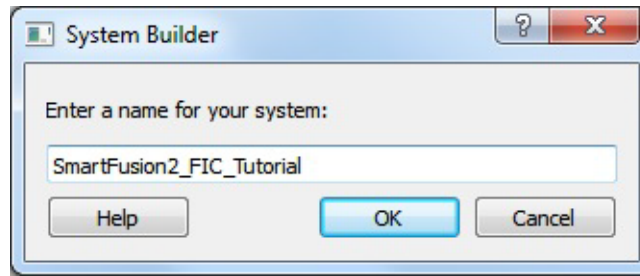

Figure 6 • Libero SoC Project Window
9. After selecting the **Use System Builder**, enter the name of the system in the **Enter a name for your system** dialog box, as shown in Figure 6.